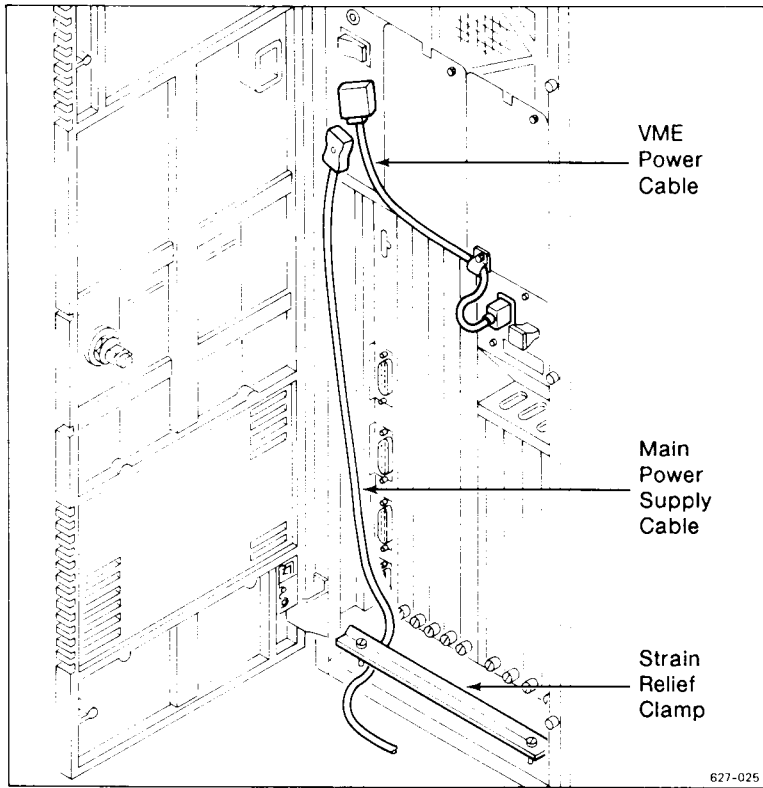

Figure 4-1. Connecting the Power Cable
One end of the power cable must be inserted into the Power Supply Module. When you are looking at the rear of your system, the Power Supply Module is located in the upper left corner (see Figure 4-1).
5. Position the strain relief clamp over the terminal and power cables, and secure it to the chassis (see Figure 4-1).
6. If you installed the VME card cage, make sure that you also connected the VME power cable. Its proper connection is also illustrated in Figure 4-1.